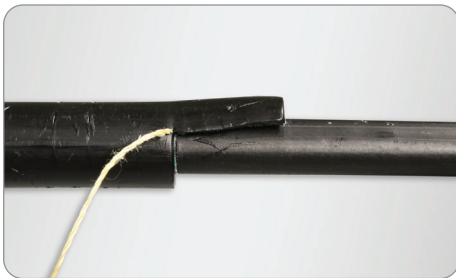

Figure 18
1. Slit the cable armor on both sides at approximately 1" to leave a tab of armor. This will be just past where the cable attachment unit (CAU) will be installed. **(Figure 18)**